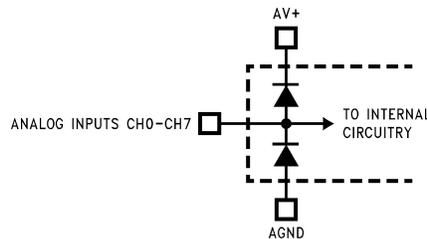

Figure 6.
- Two on-chip diodes are tied to each analog input as shown below. They will forward-conduct for analog input voltages one diode drop below ground or one diode drop greater than V^+ supply. Be careful during testing at low V^+ levels (+4.5V), as high level analog inputs (+5V) can cause an input diode to conduct, especially at elevated temperatures, which will cause errors in the conversion result. The specification allows 50 mV forward bias of either diode; this means that as long as the analog V_{IN} does not exceed the supply voltage by more than 50 mV, the output code will be correct. Exceeding this range on an unselected channel will corrupt the reading of a selected channel. If AV^+ and DV^+ are minimum ($4.5 V_{DC}$) and full scale must be $\leq 4.55 V_{DC}$. See Figure 6